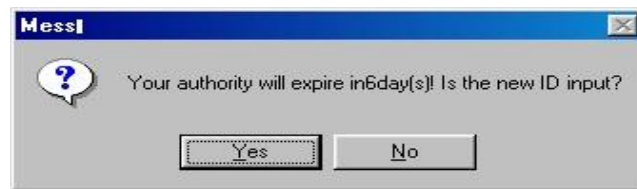

Figure 2-9
- 9) If the authority has expired, the screen will show the prompt message as shown in Figure 2-9. If **the new ID** is input immediatly, click **OK** button. Figure 2-10 appears.